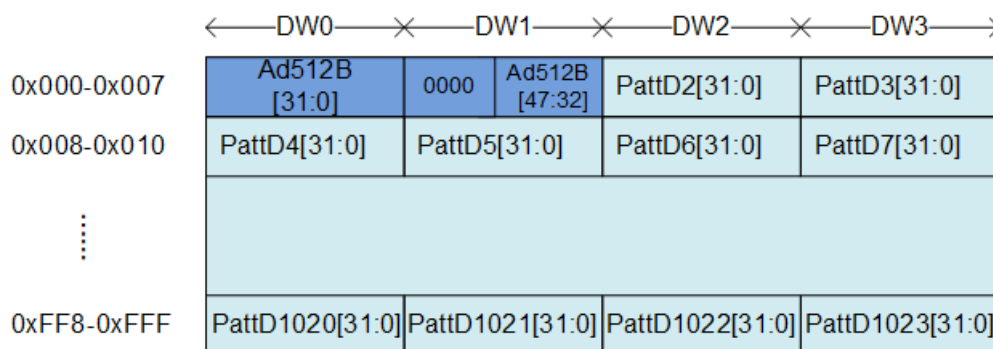

Figure 2-4 Test pattern format of 4096-byte data for Increment/Decrement/LFSR pattern
As shown in Figure 2-4, 4KB data consists of 64-bit header in DW#0 and DW#1 and the test data in DW#2 – DW#1023. 64-bit header is assigned by a physical address of SSD which stores this 4KB data. The header is designed by AddrCnt (Header). It is up-counter, similar to Addr Counter in Command block (1), but the value is increased after finishing transferring each 4KB data. While the remaining data is the test pattern which may be 32-bit incremental data, 32-bit decremental data or 32-bit LFSR counter, selected by PattSel. The 32-bit incremental data is designed by combining current address, rHdrAddr, with the lower bit of data counter, rDataCnt[7:0]. The decremental data is designed by using NOT logic to the incremental data. The equation of 32-bit LFSR data is $x^{31} + x^{21} + x + 1$. Four 32-bit LFSR data must be generated within one cycle to create 128-bit data. Therefore, the logic uses look-ahead style to generate four LFSR data in the same clock.